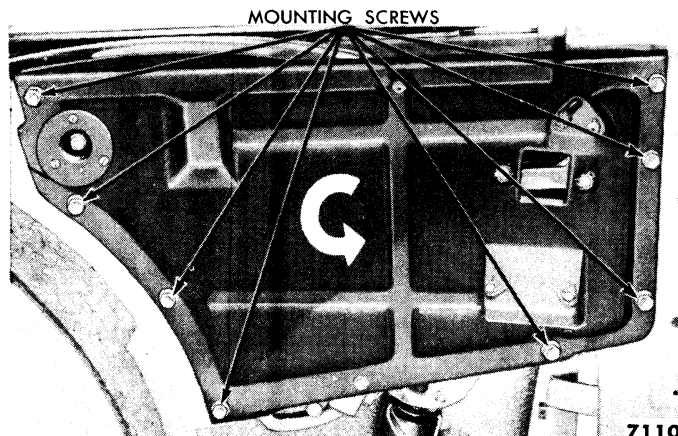

Fig. 28—Victoria Window and Regulator Panel
(1) **REPLACEMENT.** To remove the panel, lower the window to the open position, and remove the eight mounting screws (fig. 28). Slightly rotate the panel assembly as indicated by the curved arrow, then dismount the assembly from the quarter panel by moving it forward and out.
Slant the window and regulator panel slightly upward and forward of the quarter panel, then slide the rear track into the rear end of the quarter panel. Rotate the assembly into position, and secure it to the quarter panel with the mounting screws (fig. 28).
(a) **PANEL ALIGNMENT.** Raise the window to the closed position, and loosen the eight mounting screws (fig. 28). Slide the panel assembly forward or backward and up or down as required to fit the window glass and frame assembly to the contour of the window opening. Lateral misalignment of the glass and frame assembly